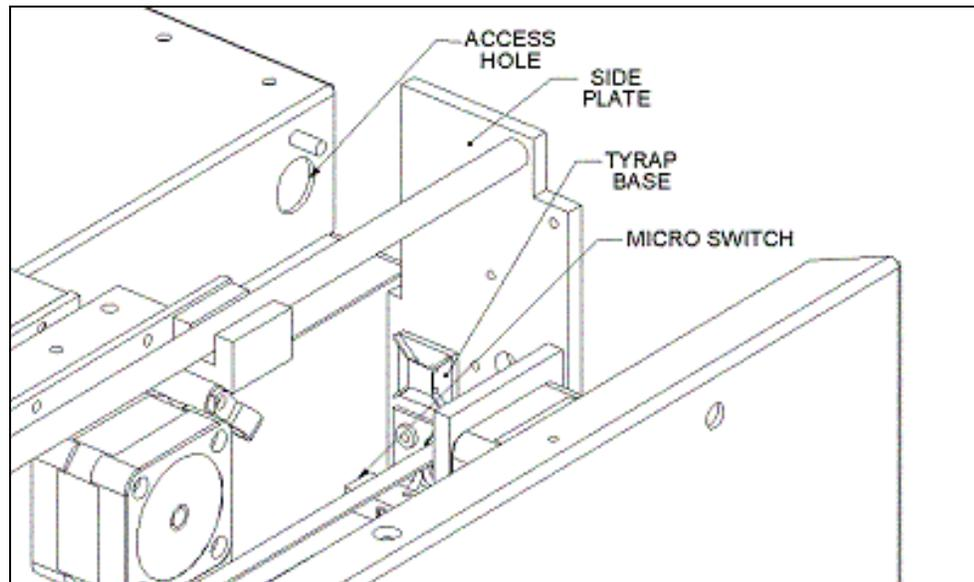

Figure 13-11 Access Hole
- 3 Withdraw the pinch valve thru the access hole in the front cover (Figure 13-11).